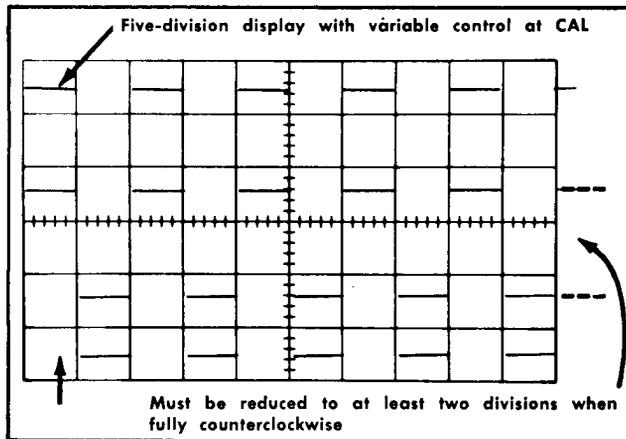

Fig. 5-3. Typical CRT display showing correct Channel 1 and 2 VARIABLE control range (double exposure)
c. CHECK-Turn the Channel 1 VARIABLE control fully counterclockwise (minimum gain). Display should be reduced to two divisions or less (indicates adequate range for continuously variable deflection factors between the calibrated steps; see Fig. 5-3); Channel 1 UNCAL light must be on when the Channel 1 VARIABLE control is not in CAL position.
e. CHECK-Turn the Channel 2 VARIABLE control fully counterclockwise (minimum gain). Display should be reduced to two divisions or less (indicates adequate range for continuously variable deflection factors between the calibrated steps; see Fig. 5-3). Channel 2 UNCAL light must be on when Channel 2 VARIABLE control is not in CAL position.